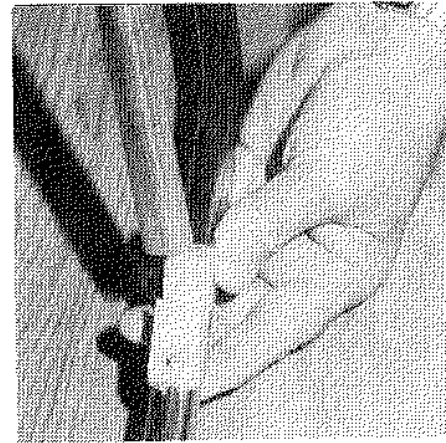

Fig. 4
9. Enter unit and insert bed bow support pole at bow peg. Push bow outward and upward while pressing on button farthest from the end and slip into bracket mounted on roof. Release button. Fig. 4
5. Remove bow braces from bracket on the roof and pull brace to center of coach. Remove from peg on bed bow. Place bows under bed mattress. Fig. 4